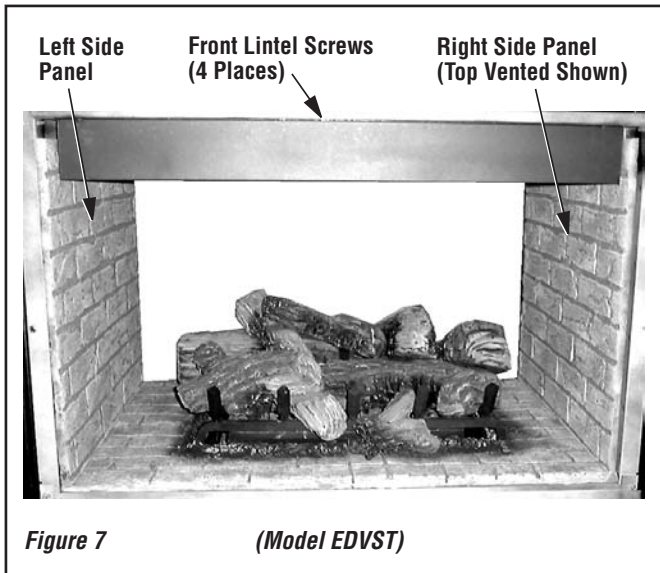

Figure 7 (Model EDVST)
1. Slide the provided left and right side panels into the unit as shown in **Figure 7**.
2. Slide the panel with the U-shaped cut out removed into the unit (on the vented side of the unit) as shown in **Figure 7**.
3. Slide the other provided panel into the unit, as shown in **Figure 7**. (See **Note On Previous Page**).